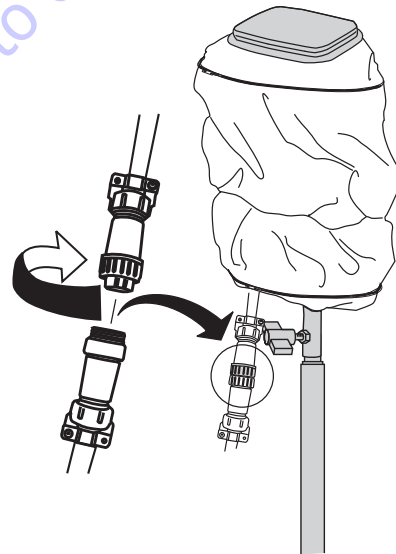

Figure 14. Connecting Power Cables
4. Connect the AC power cable (Figure 14) to the lamp power cable.